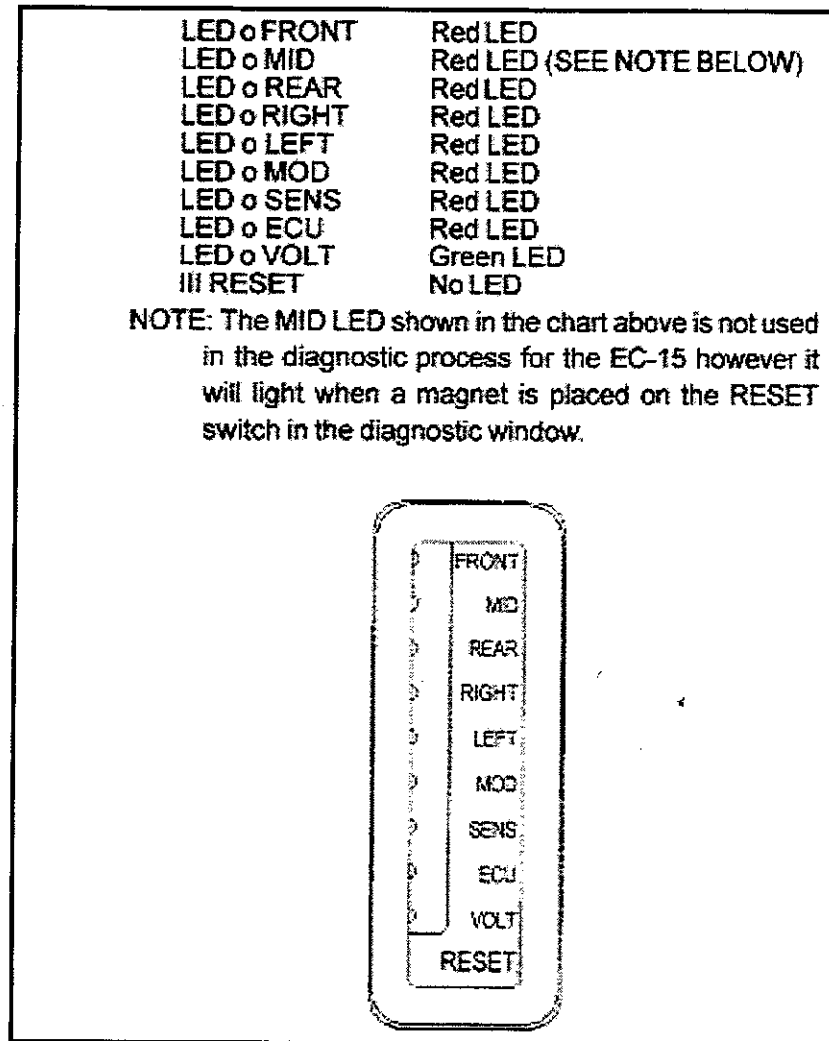

Figure 29—Diagnostic Window
2. Inspect EC-15 LED controller for function. Turn ignition on. Hold a 800 gauss magnet capable of picking up 3 ounces (85.1 g) held to the reset switch should cause all of the LED(s) to illuminate. (See Figure 29—Diagnostic Window.)